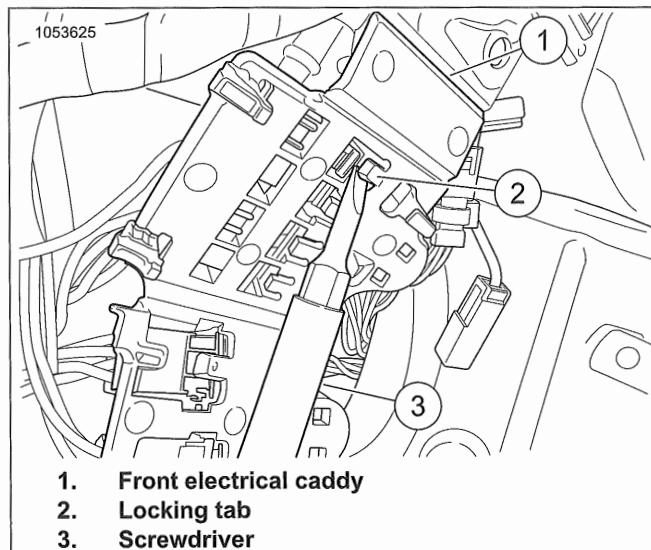

Figure 7-143. Center Fold Locking Tab
- b. See Figure 7-143. Using a small screwdriver (3), pry the connector locking tab (2) open.